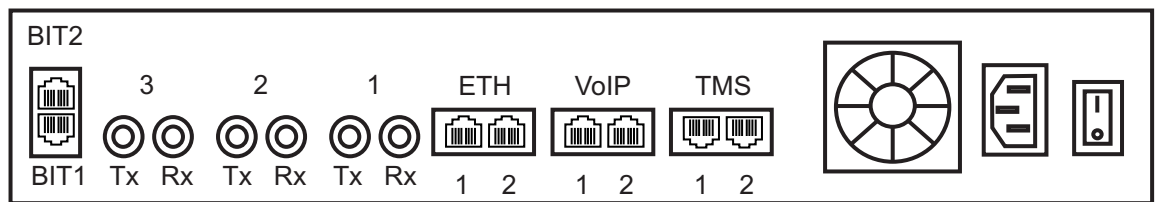

Figure 2.6 DS3 Interface to the PSTN
A TMG3200 with 3 sets of BNC connectors enables the connection to DS3 lines. See figure 2.6 on page 16
1. Start with the Dual BNC port pair #1 (right-most) as shown in figure 2.6 on page 16. Connect one pair of BNC cables between this port and the DS3 line.